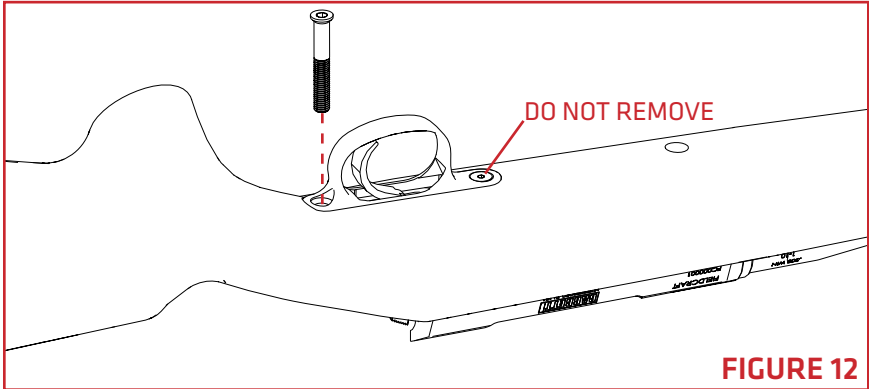

FIGURE 12
3. Remove the rear action bolt (FIGURE 12).